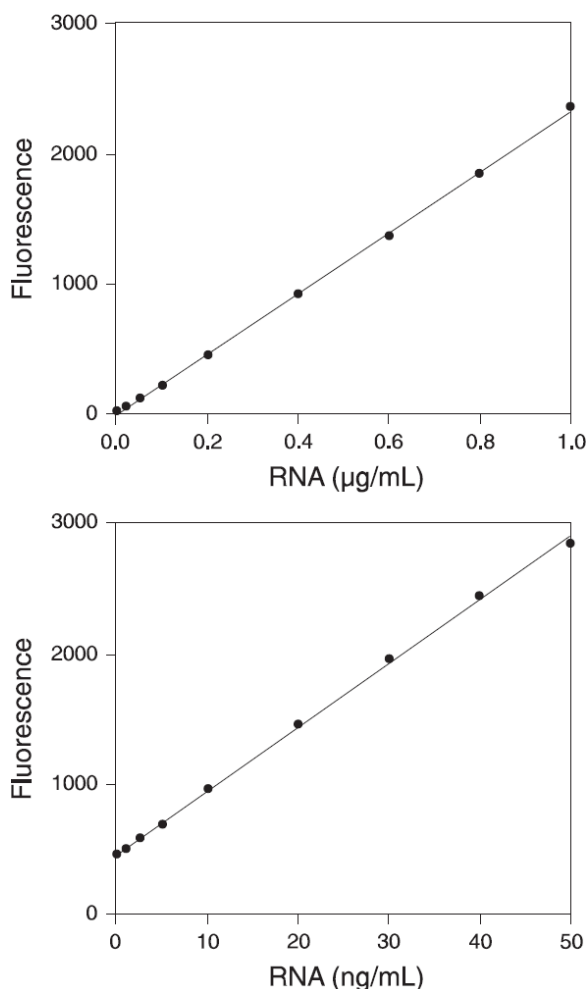

Figure 1 Dynamic range and sensitivity of the Quant-iT™ RiboGreen™ RNA Assay.
Reagent extends over three orders of magnitude in RNA concentration (1 ng/mL to 1 µg/mL) using two dye concentrations (Figure 1). The high-range assay allows quantitation of 20 ng/mL to 1 µg/mL RNA, and the low-range assay allows quantitation of 1 ng/mL to 50 ng/mL RNA. This linearity is maintained in the presence of several compounds commonly found to contaminate nucleic acid preparations, including nucleotides, salts, urea, ethanol, chloroform, detergents, proteins, and agarose. Although the Quant-iT™ RiboGreen™ RNA Reagent also binds to DNA, pretreatment of mixed samples with DNase can be used to generate an RNA-selective assay (see “Eliminate DNA from samples” on page 5).
5. Subtract the fluorescence value of the reagent blank from that of each of the samples. Use corrected data to generate a standard curve of fluorescence versus RNA concentration (see Figure 1).